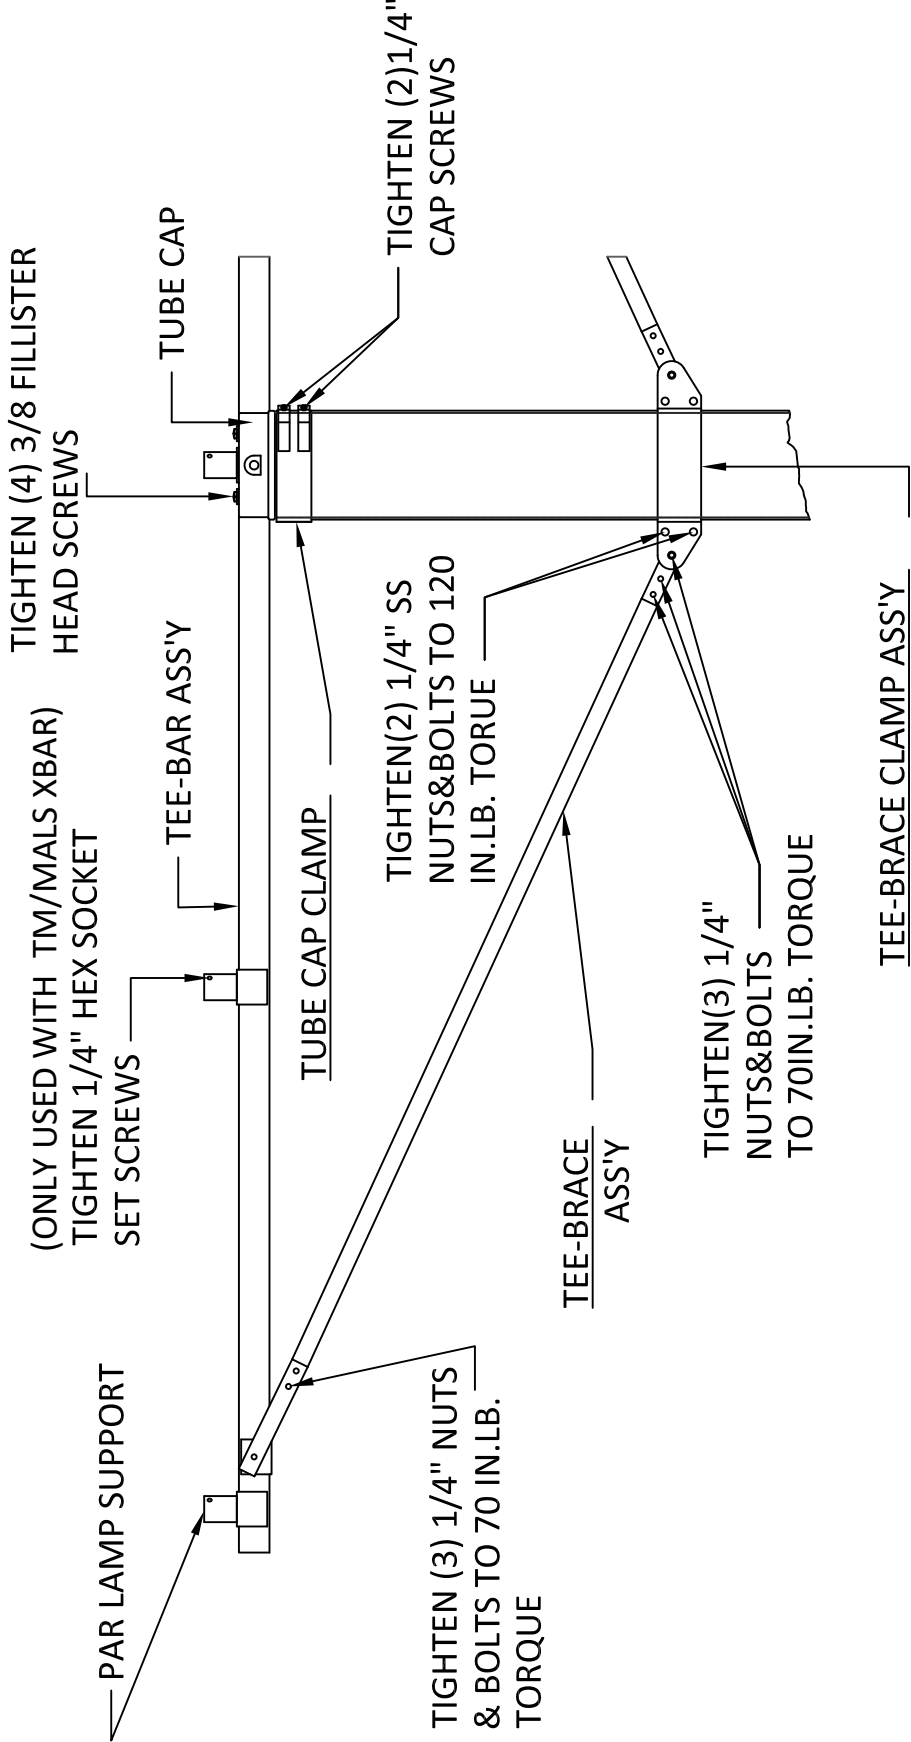

FIGURE 6-11
- a.** LIR structures with Tee Bars: Using a torque wrench (120 in. lb. min. range), 7/16” socket (to fit torque wrench) and a 7/16” combination wrench tighten all ¼” nuts and bolts on the Tee Bar, Tee Brace and Tee Brace Clamp. Torque ¼” nuts and bolts to 70 or 120 in. lb. + 5 in. lb. – 0 in. lb. (See Fig. 6-11). Check tightness of hex socket set screws in Par lamp supports with a 1/8” Allen wrench.